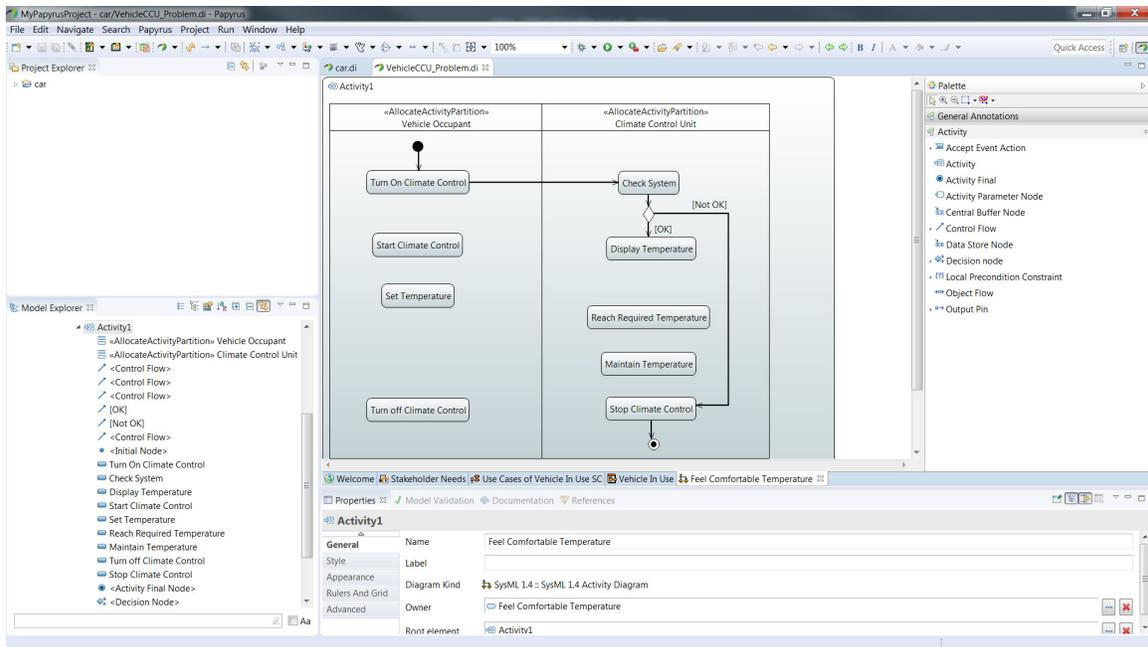

Figure 54: Creating the [Not OK] Guard Condition
23. Now create a control flow between the decision node and the *Stop Climate Control* action and type *Not OK* for the name. This represents our other guard condition to be executed if the *Check System* action results show that there is some kind of fault in the system. In this case we will go to the *Stop Climate Control* action. Note that you can Click on the control flow line to break it into segments and then drag these control points to reposition the segments. Add an unnamed control flow between the *Stop Climate Control* action and the final node. Your activity diagram should look like (figure 54).